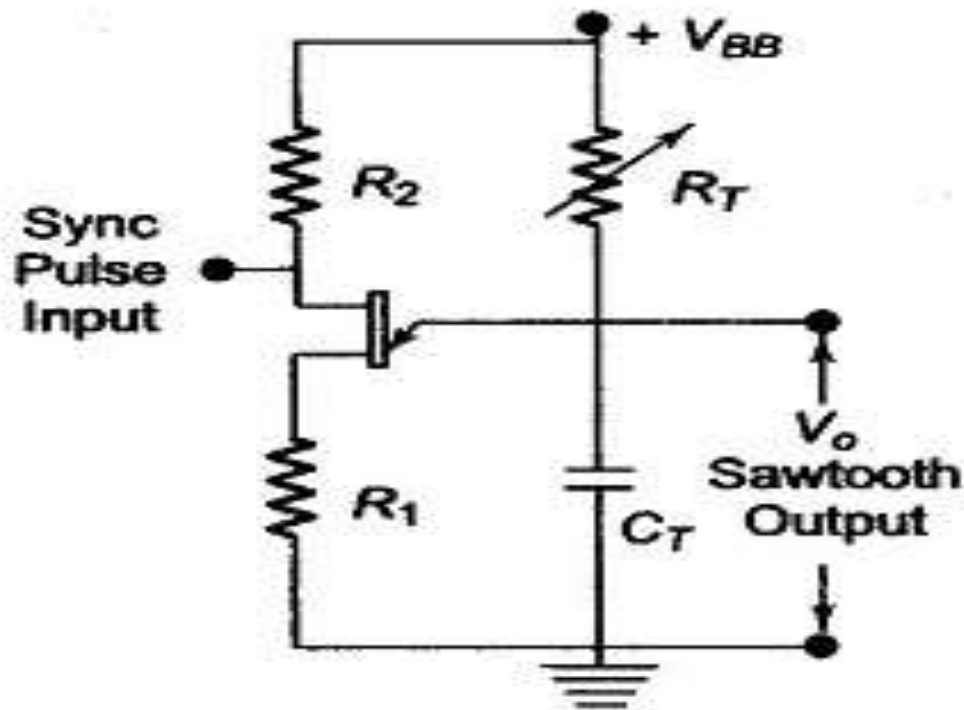

Fig. 7.8 Continuous Sweep
- A continuous sweep CRO using a UJT as a time base generator is shown in Fig. 7.8.